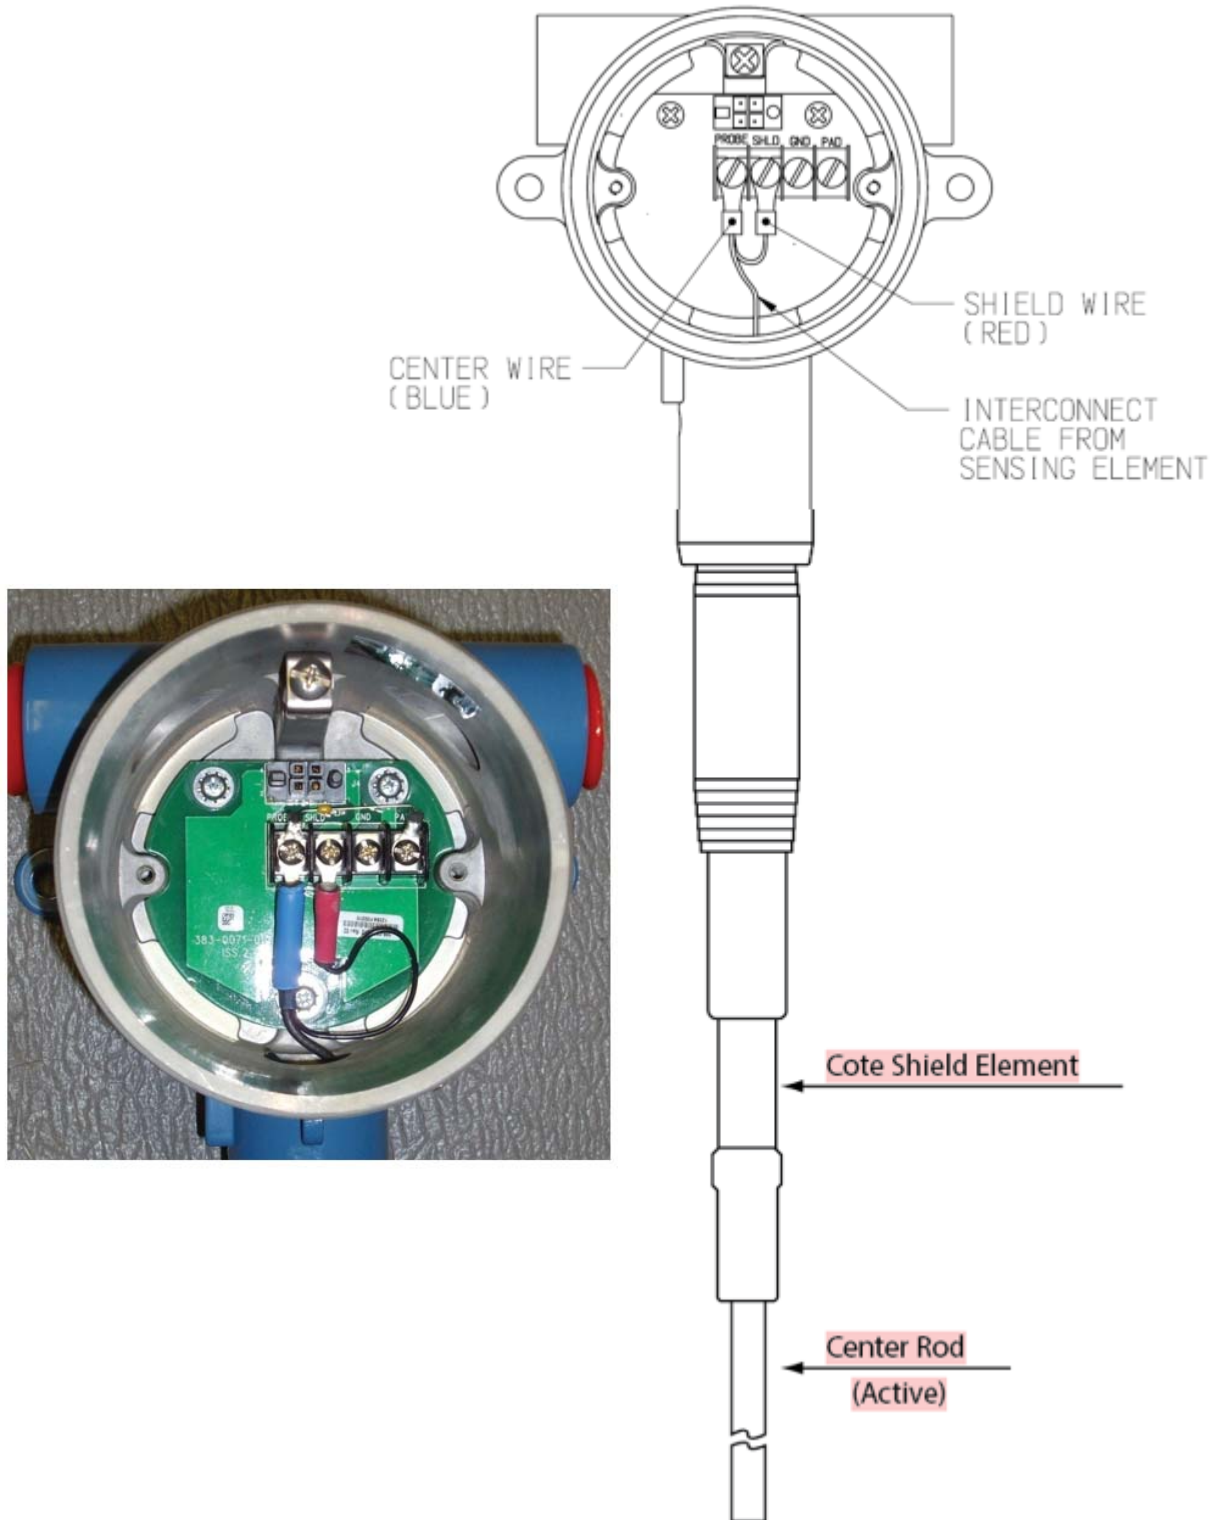

Figure 7-3
3. *Ref Figure 7-3 on page 52.* Remove probe and shield wires. Measure from Probe center wire (Blue) to GRD terminal, Probe center wire (blue) to Shield wire (Red) and Shield wire (Red) to GRD terminal. All reading should be open.
- A. Probe center Wire (Blue) should be shorted to the tip of the probe (listed as center rod (active)) in Fig 7-3. Probe center wire (Blue) should be open to ground and the the Shield wire (Red).
- B. Shield wire (Red) should be shorted to the probe shield (listed as Cote Shield Element in Fig 7-3.) and open to probe (Center Rod Active) and ground screws.